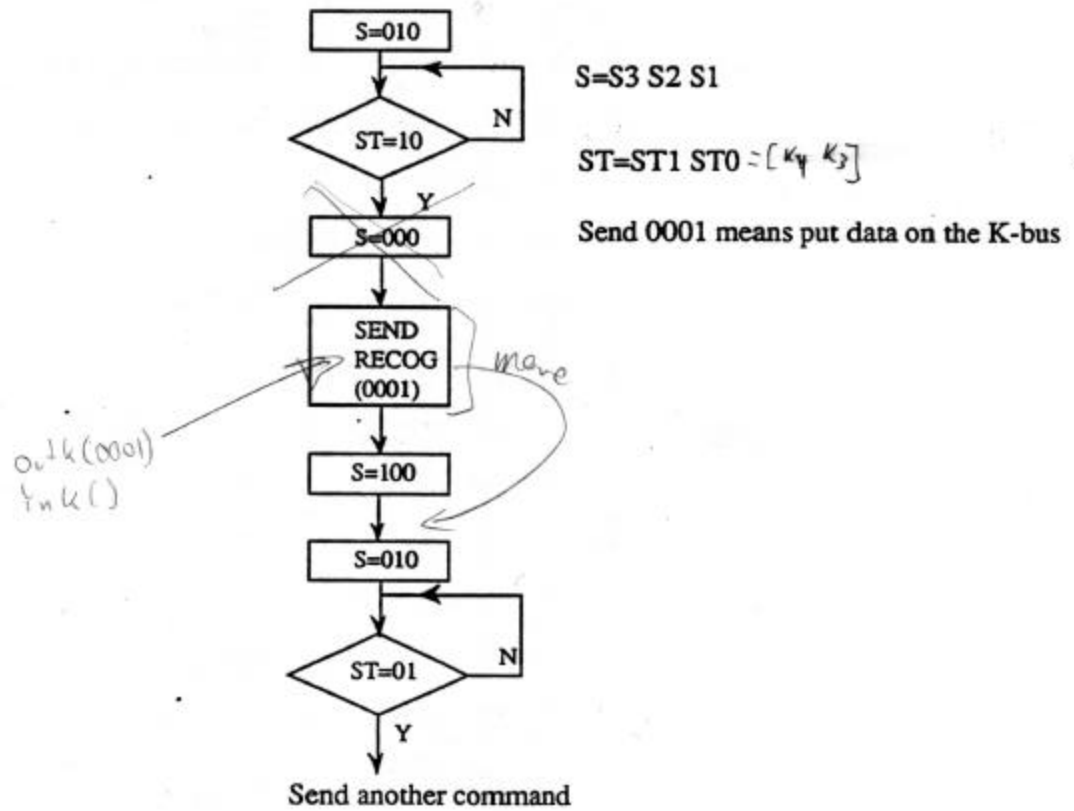

Fig 1. Control flow of the CPU mode for recognition.
When HM2007 receives the command RECOG, the chip will begin its recognition process. The external device can be polling the status flag to monitor the operation state of HM2007. When the operation state is changed to (01), and WAIT pin is "L", HM2007 will back to the operation state (10) and then ready for receive another command. When the operation state is change to (01) and WAIT pin is "H", it is ready to get voice input and then do the recognition process. When the operation state is changed back to (10) again, then the recognition process is completed and HM2007 is ready to get another command. The programming flow chart is shown in Fig. 1.